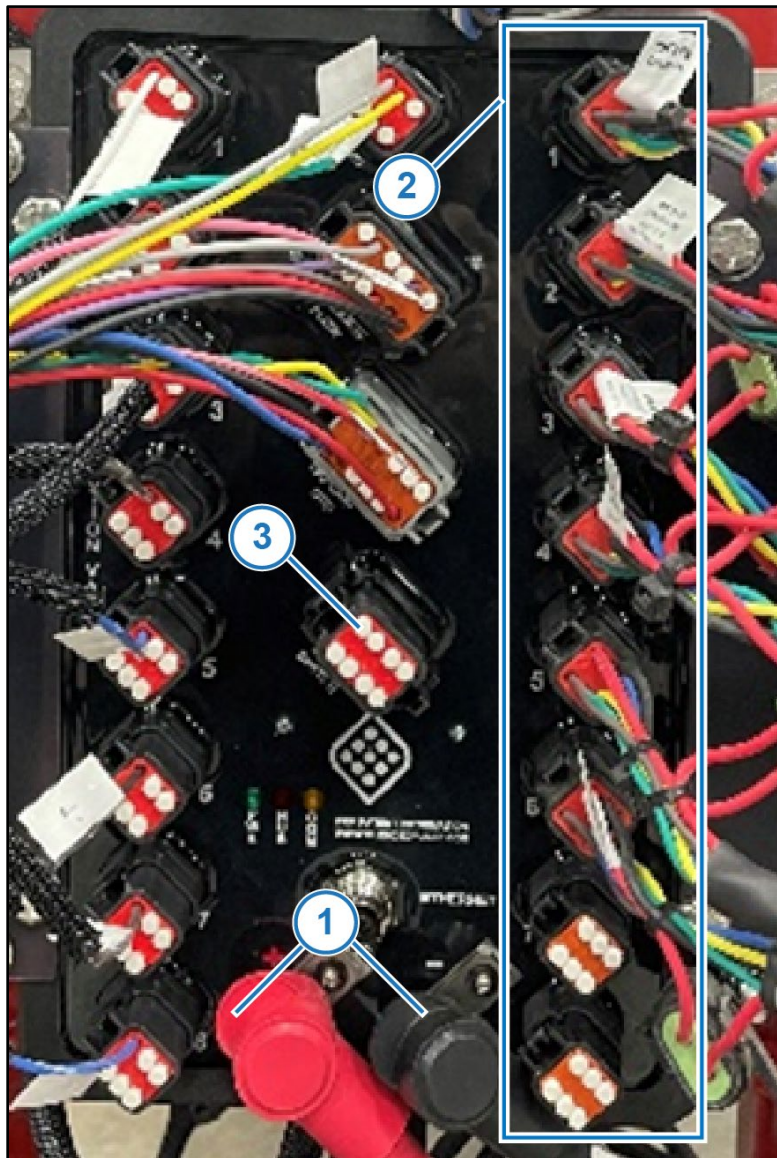

Figure 5 — PCII Replacement and Power Harness Connections
1. *Figure 5:* Attach power harness to Envelop Hub positive and negative terminals (1) using supplied bolts and flange nuts.
2. Plug each VCM extension harness into its corresponding numbered port (2).
3. Insert dust plugs into unused ports (706530-456) (3).